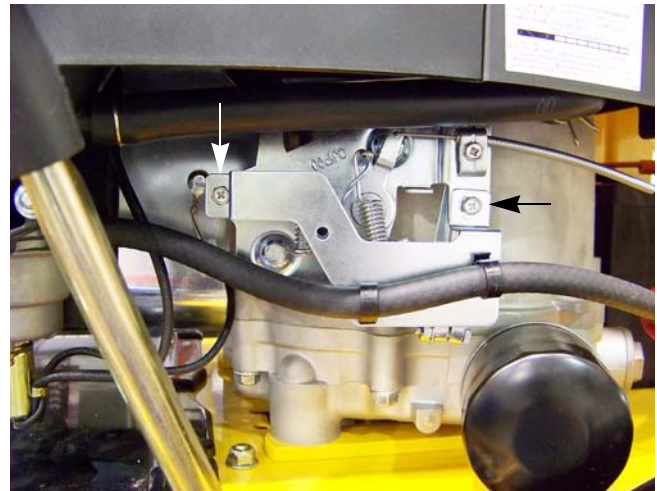

Figure 4.24
1. Remove the two screws, indicated by the arrows in Figure 4.24., that hold the governor guard in place using a 8 mm wrench.